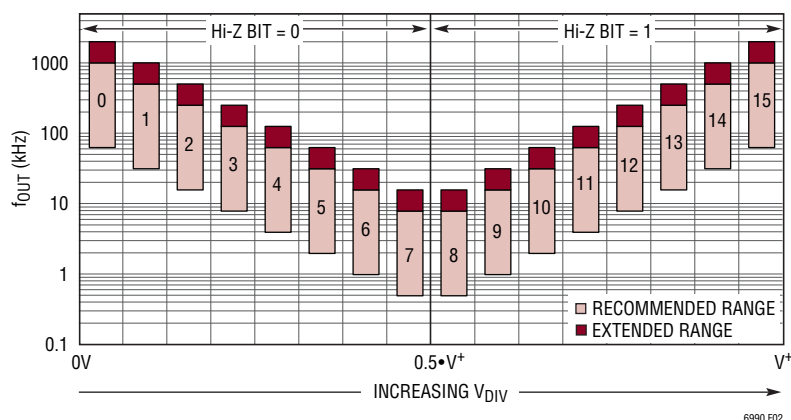

Figure 2. Frequency Range and Hi-Z Bit vs DIVCODE
**Note 5:** See Operation section, Table 1 and Figure 2 for a full explanation of how the DIV pin voltage selects the value of DIVCODE.
Figure 2 illustrates the information in Table 1, showing that NDIV is symmetric around the DIVCODE midpoint.